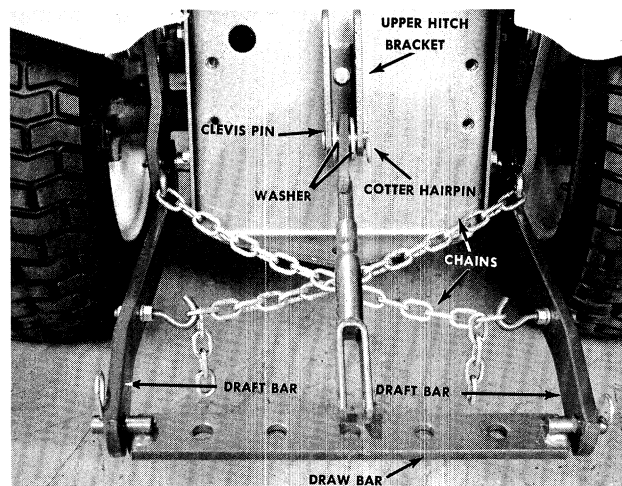
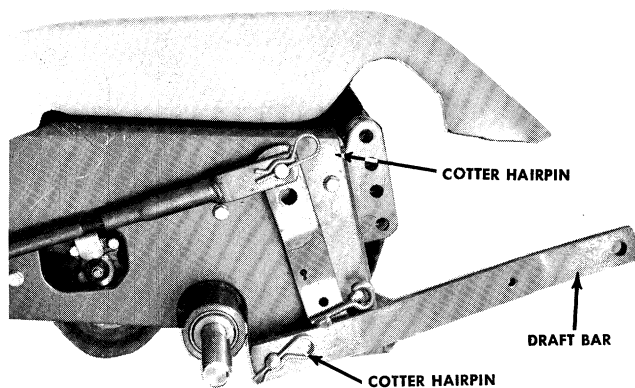

FIGURE 4. THREE POINT HITCH
FIGURE 7. DRAFT BAR ASSEMBLY
- Step 3. Assemble the two draft bars as shown. (Refer to Figure 4 to determine which is the right hand and left hand). Secure with cotter hairpins on the top and bottom. See Figure 7.
- Step 4. Assemble the draw bar to the draft bars and secure with cotter hairpins. See Figure 4.
- Step 6. Place a lockwasher on the hook bolt and place the hook through the draft bar so it is on the inside. Do this on both draft bars. See Figures 4 and 8.
- Step 7. Fasten the chains to the rear hook welded on the draft bar and cross over to the hook bolt. Do both chains this way. See Figure 4.
- Step 8. Tighten the outside nuts on the hook bolt until there is only about 1/2" slack in the center of the chain. See Figures 4 and 8.
- Step 11. Assemble the flat end of the Center Adjustment Arm to the bottom hole in the Upper Hitch Bracket with two flat washers, a clevis pin and a cotter hairpin. See Figure 4.
The upper hitch bracket can be attached in the lower mounting position as shown in Figure 4 or the two bolts can be removed and the upper hitch bracket can be mounted in the higher position. It also can be mounted upside down to obtain the maximum adjustment when using the rear mounted attachments.
The draft bars can also be switched from side to side so they bow in instead of out as shown in Figure 4.